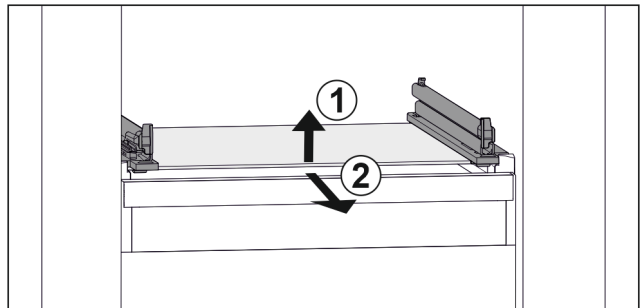

Fig. 88 Example illustration of glass shelf
- ▶ Lift glass shelf at the front. Fig. 88 (1)
- ▶ Take out glass shelf to the front. Fig. 88 (2)